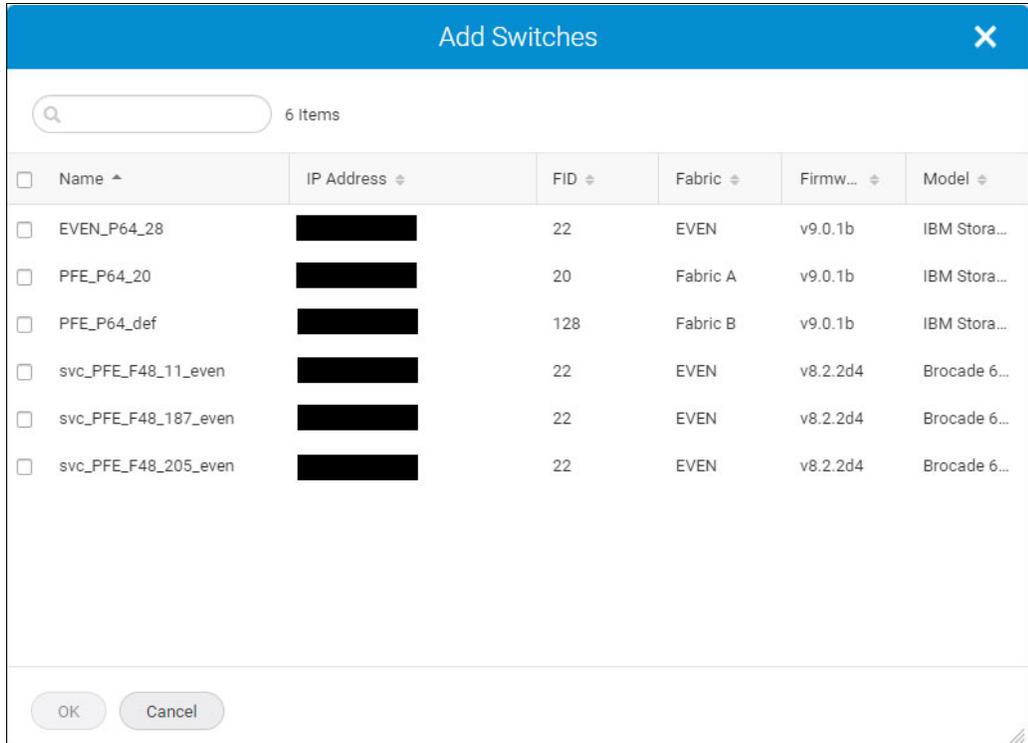

Figure 5-7 Add Switches
- b. Select the switches to which the policy is to be applied, as shown in Figure 5-7.